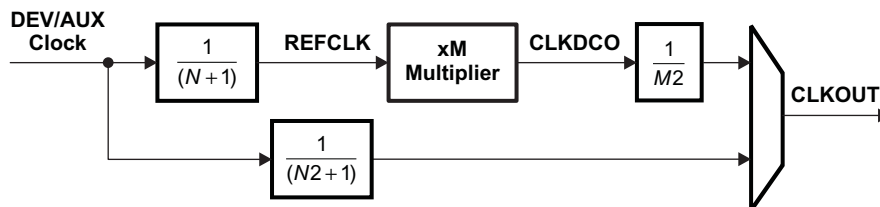
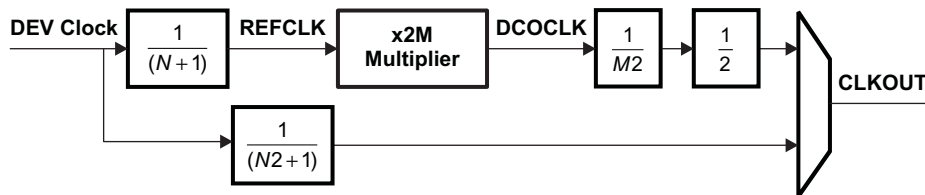

Figure 8-17. Top-Level PLL Simplified Block Diagram
Figure 8-18. PLL_ARM Simplified Block Diagram
The device contains 12 top-level PLLs, and 4 embedded PLLs (within the ARM Cortex-A8, PCIE, SATA, and CSI) that provide clocks to different parts of the system. Figure 8-17 and Figure 8-18 show simplified block diagrams of the Top-Level PLL and PLL_ARM. In addition, see the System Clocking Overview (Figure 8-6) for a high-level view of the device clock architecture including the PLL reference clock sources and connections.
(1) This parameter describes the limits on the programmable multiplier value M. The multiplication factor for the PLL_ARM is equal to 2 * M (also see Figure 8-18).
(2) The PLL Multiplier supports fractional values (up to 18-bits of fraction) except when the PLL Multiplier is < 20 OR > 2045.